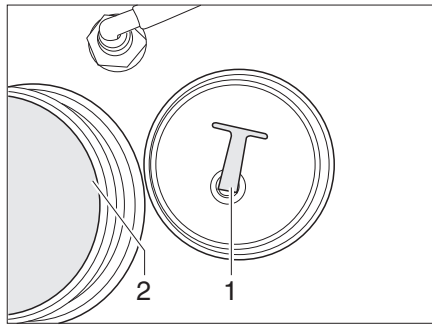

Fig. 369 Stopper
- Screw the stopper (Fig. 369,1) out of the drainage opening (Fig. 369,2). The water drains off.